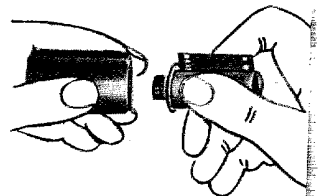

Fig. 7
3. Insert the film spool into the cartridge with the leader end of the film in the cartridge slit (Fig. 7) and replace the cover. All other operations with the magazine may be performed in daylight.